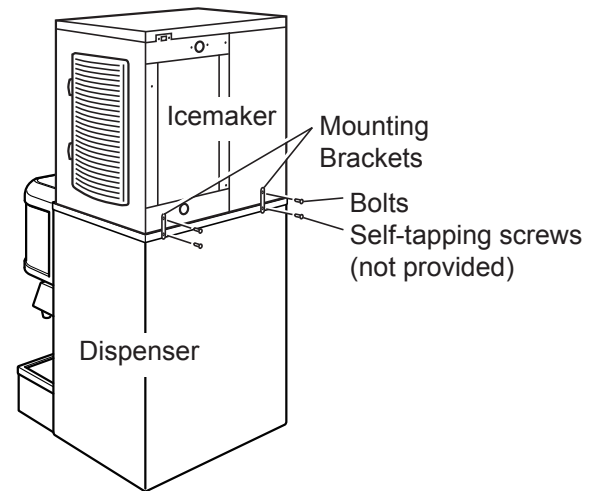

Fig. 2b
- 6b) **Dispenser Unit:** Follow the dispenser unit, adapter kit, or top kit instructions for securing the icemaker. If no instructions are available, secure the icemaker using the mounting brackets provided. Rotate the mounting brackets so that they fit flush to the dispenser unit. See Fig. 2b. Secure the mounting brackets to the icemaker with the bolts provided. Secure the mounting brackets to the dispenser unit with self-tapping screws (not provided). **NOTICE!** Use care to avoid damage to dispenser unit components when attaching the mounting brackets.